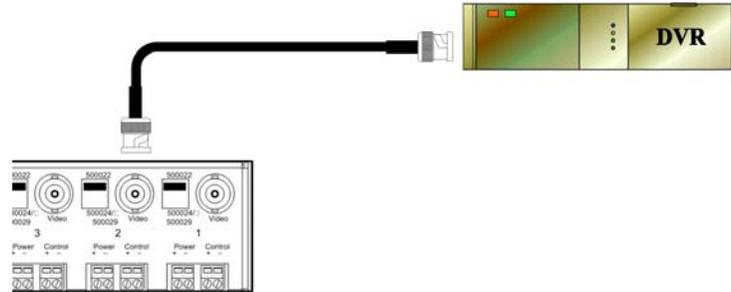

Figure 8: Video connection, Model 500130
7. Connect one coax cable between each video output port on the rack and the DVR video input (fig 8).